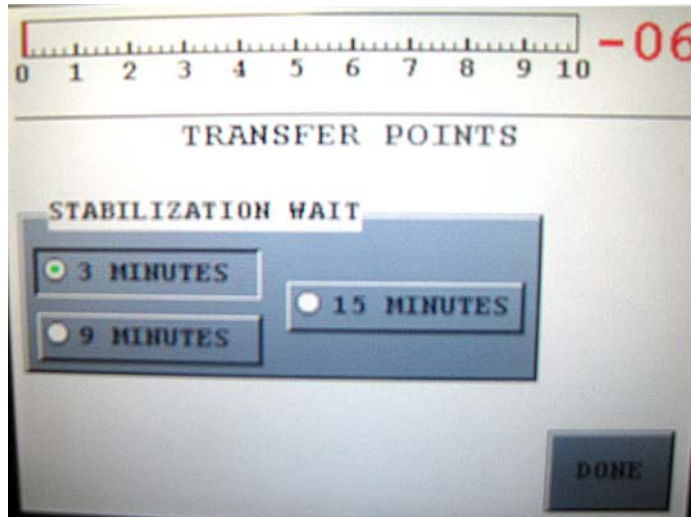

Figure 2-9 Transfer Points with Stabilization Wait Timer
- Press **Transfer Points** on the Menu screen. The Transfer Points screen appears (Figure 2-9). Use this screen to set the Stabilization Wait.